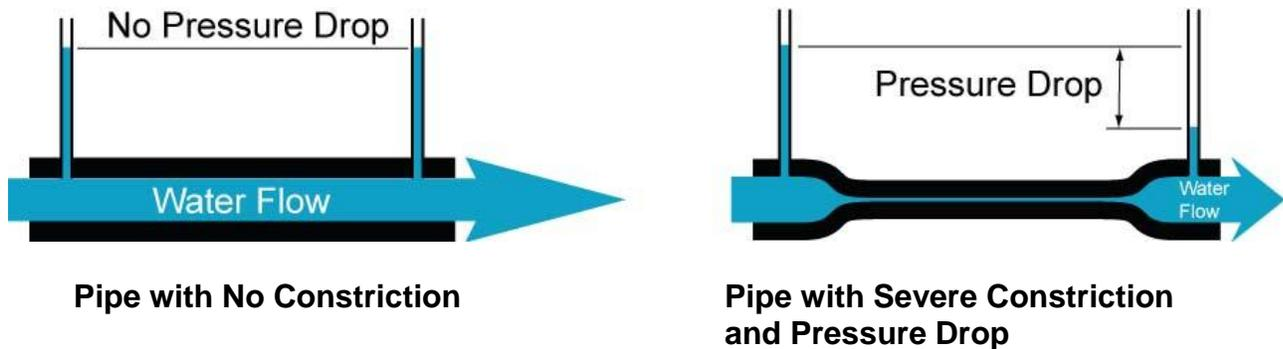

Figure 15: A Constriction in a Water Pipe Reduces the Water Flow and Produces a Pressure Drop
- **Resistance (Units in Ohms, Ω):** Resistance in water flow is represented by a constriction or obstruction that will produce a pressure drop (Figure 15).